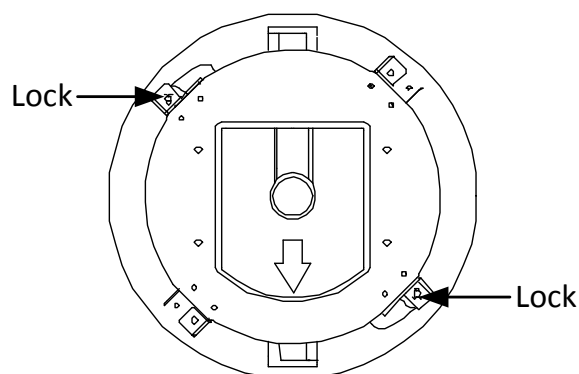

Figure 2-7 Locks and Lock Screws
- 1) Loosen the two lock screws on both sides of the back box and make the locks in internal position, as shown in the Figure 2-7.